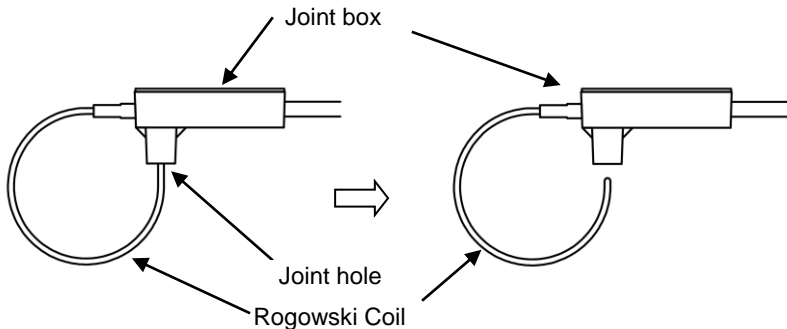

Figure 4.1 How to connect Rogowski Coil
- (3) Place the target to be measured through the Rogowski Coil Sensor part.
- a) As illustrated in Figure 4.1, release free end of Rogowski Coil from the joint hole.